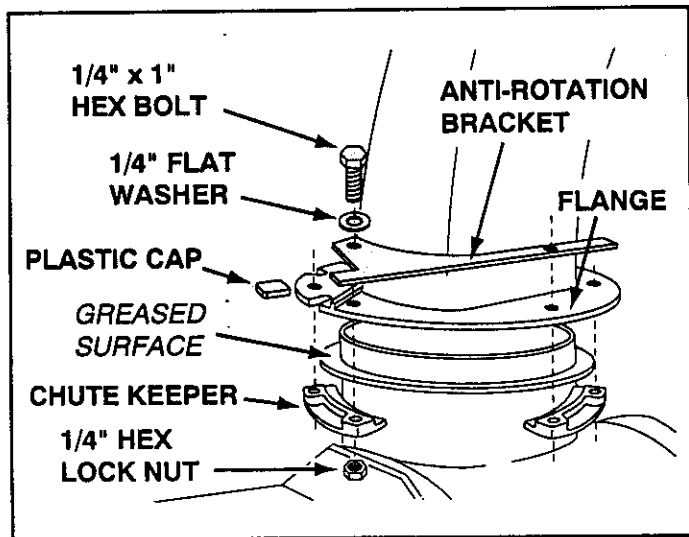

FIGURE 21
- Coat the top of the ring around the discharge opening with general purpose grease. See figure 21.
- Place the discharge chute (facing forward) onto the ring. Place the anti-rotation bracket on top of the chute flange, aligning it with the holes on the right hand side of the flange. Attach the three chute keepers (right side up as shown) to the bottom of the flange using six 1/4" x 1" hex bolts, 1/4" flat washers and 1/4" hex lock nuts. **Tighten carefully** so that the nuts are snug but do not dig into the plastic chute keepers. See figure 21.
- Place the plastic cap onto the short end of the anti-rotation bracket. See figure 21.